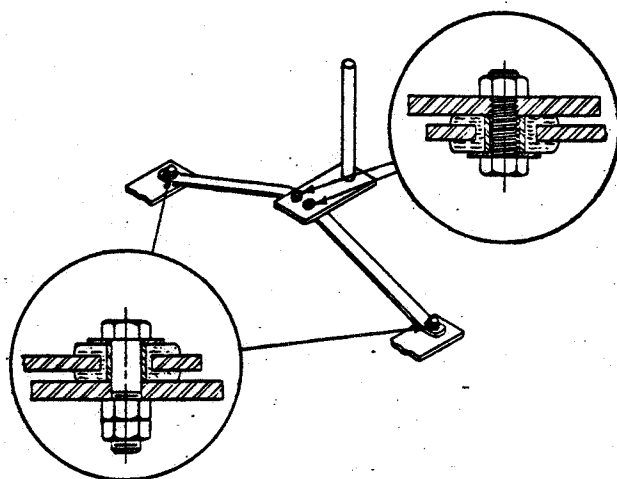

FIGURE 9
Play in steering may come from wheel being loose on shaft, gears not being tightly in mesh or rubber bushings (Fig. 9) being worn. Tightening and replacing will take care of first and last, while mesh of gears can be tightened by shifting pinion gear up along steering shaft or by shimmying up under Pitman housing.
6. Four neoprene bushings in steering tie rods. Two are up in behind center of axle and hard to get at. Other pair are just inside front wheels and easily accessible. (See Fig. 9)